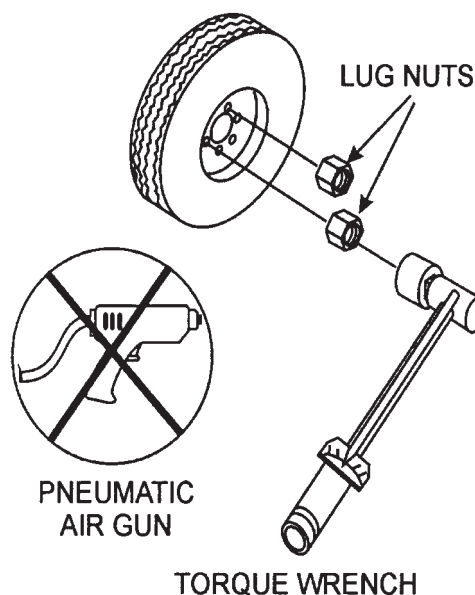

Figure 5. Wheel Lug Nuts Tightening Sequence
2. Torque all lug nuts in sequence. See Figure 5. DO NOT torque the wheel lug nuts all the way down. Tighten each lug nut in 3 separate passes as defined by Table 4.